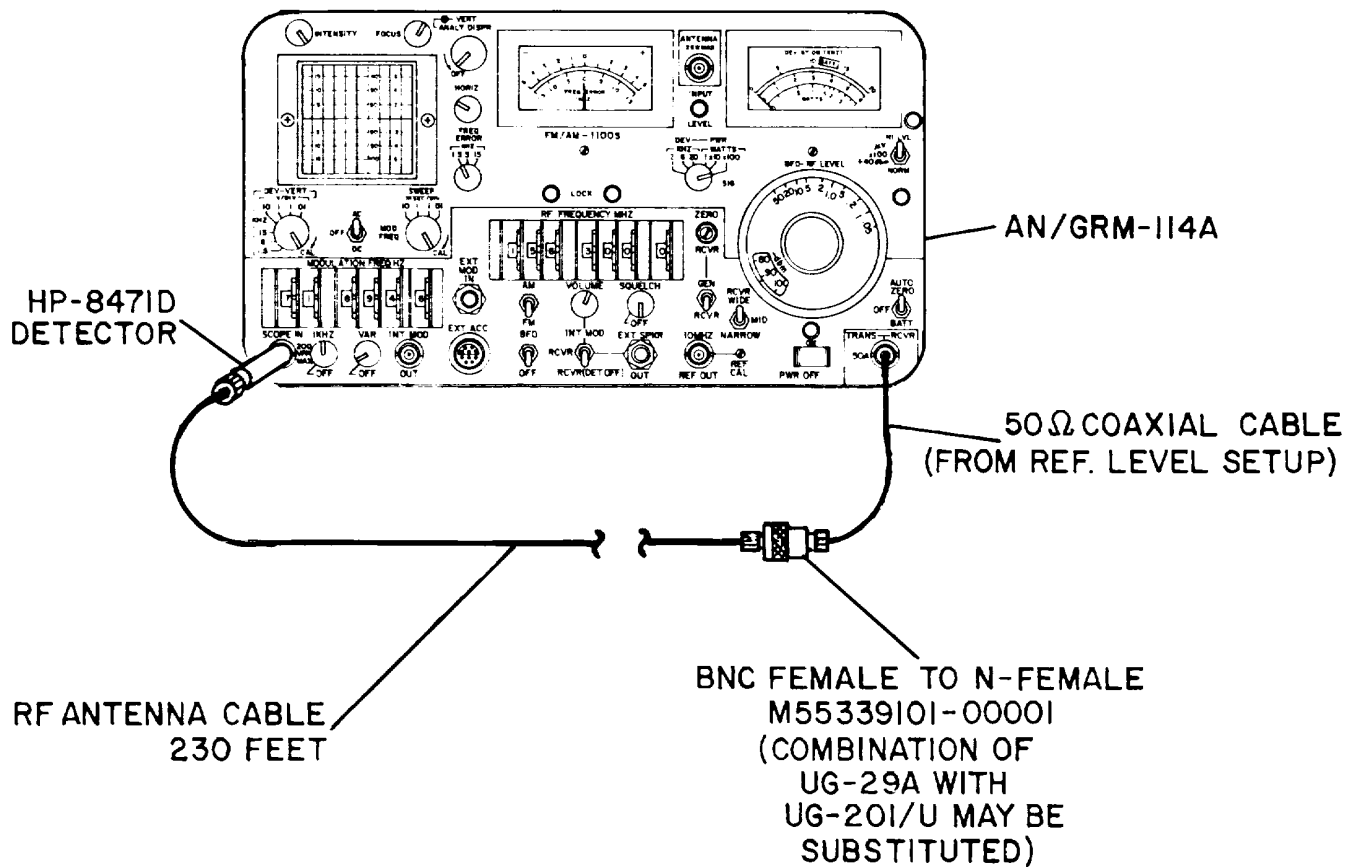

Figure 4-3. RF Transmission Cable, Cable Loss Test Setup
- (7) Note the setting of the BFO-RF LEVEL control in dBm. This is the reference level for steps that follow.
- (8) Disconnect the 50 Ohm coaxial cable from the detector and connect the antenna cable to be tested as shown in figure 4-3.
- (9) Adjust the BFO-RF LEVEL control to obtain a vertical deflection of the oscilloscope trace of 3 divisions.
- (10) Read and record the new setting (in dBm) of the BFO-RF LEVEL control. Find the difference between this setting and the reference level noted in step 7 above. This difference is the loss of the antenna cable in dB. Repair or replace cable if there is more than 6 dB of loss at 30 MHz.